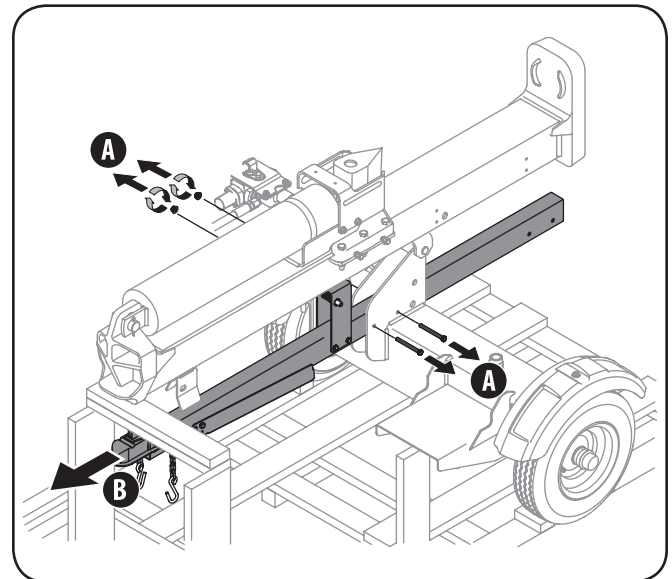
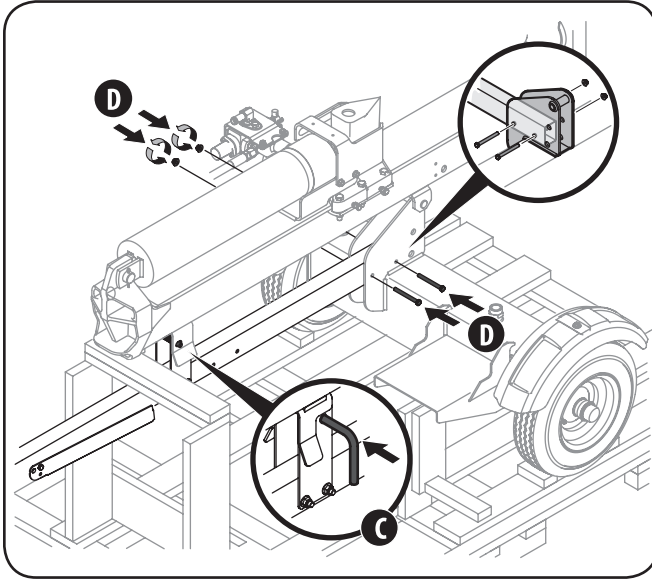

Figure 3-2
Figure 3-3
For shipping purposes, the tongue tube is secured to the log splitter frame near its center. To reposition it, refer to Figure 3-2 and Figure 3-3 and proceed as follows:
4. Pull the beam lock outward, line it up with the hole in the beam bracket and release the beam lock. See Figure 3-3.
5. Fasten the tongue tube to the frame by reinstalling the two hex screws removed in Step 1 and tightly securing with the two flange lock nuts. See Figure 3-3.